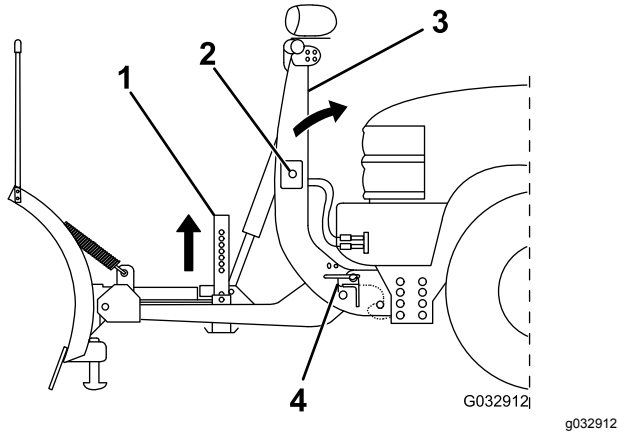

Figure 36
5. Push the SmartHitch2 switch on the side of the coupler tower upward and raise the tower until the coupler spring pins snap in (Figure 36).
7. Pull the kickstand spring pin outward and raise the kickstand, then release the spring pin to secure it (Figure 36).